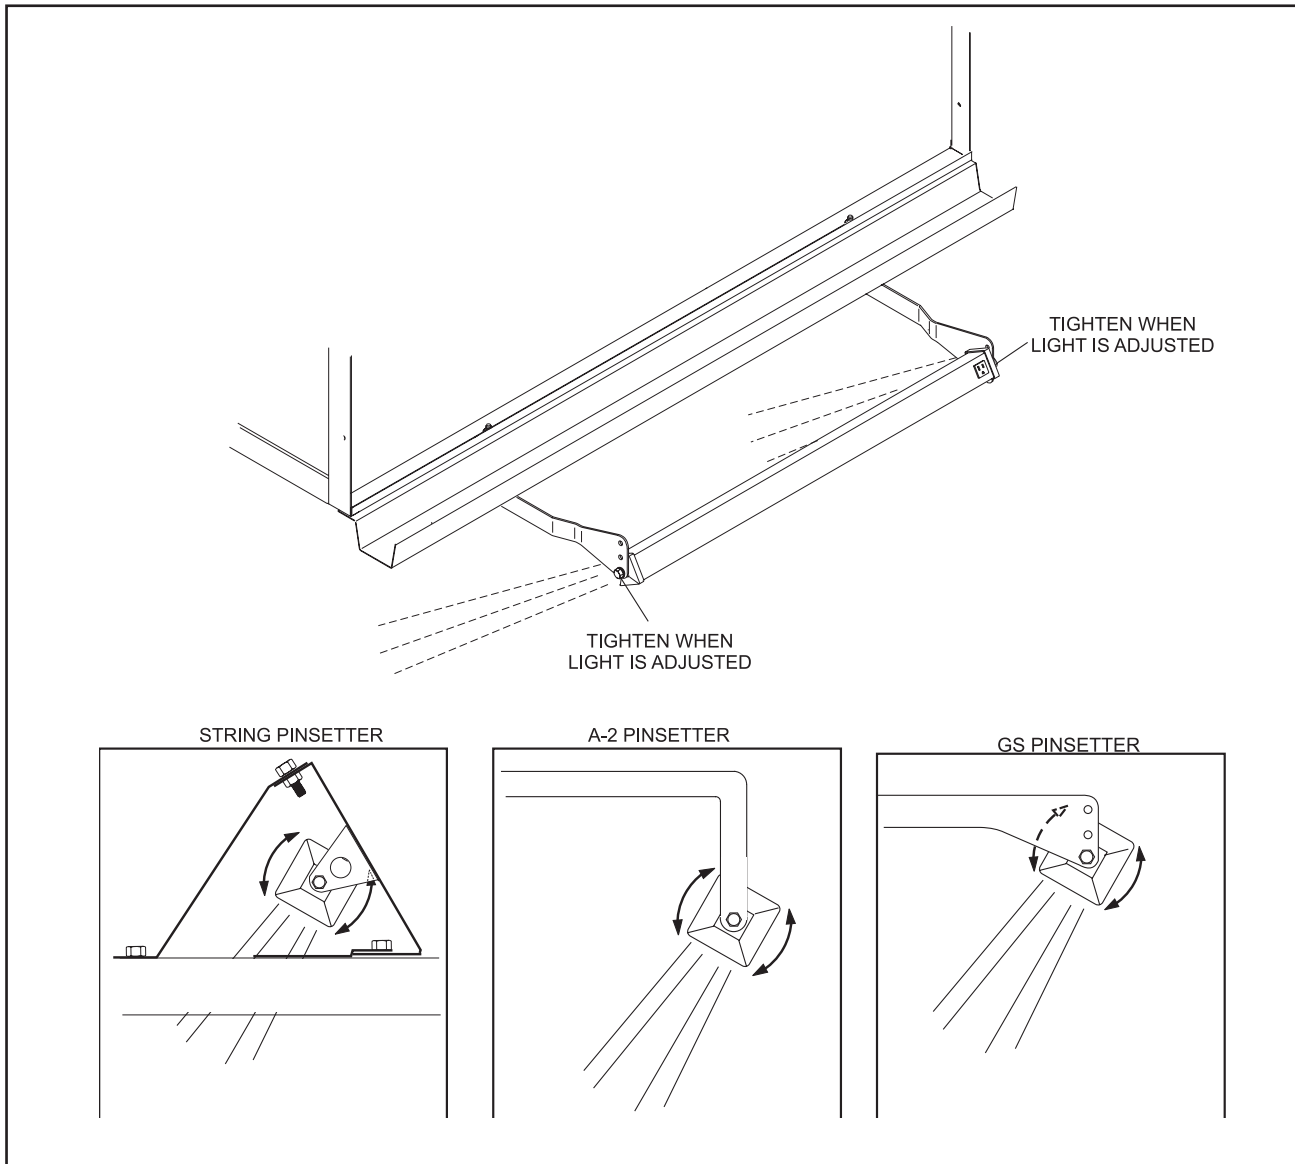

Figure 11
- Adjust the angle of the light to the desired position and tighten the screws on both ends of the light. Refer to *Figure 11*.